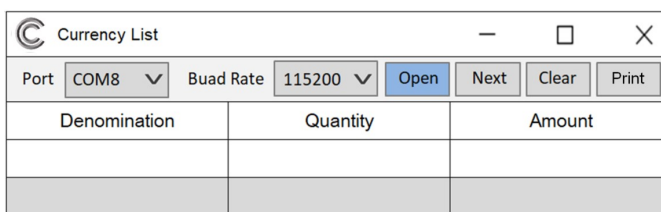

Figure 81
2) Select the serial port and the baud rate, which must match the baud rate selected on the machine, as shown in Figure 81 below.